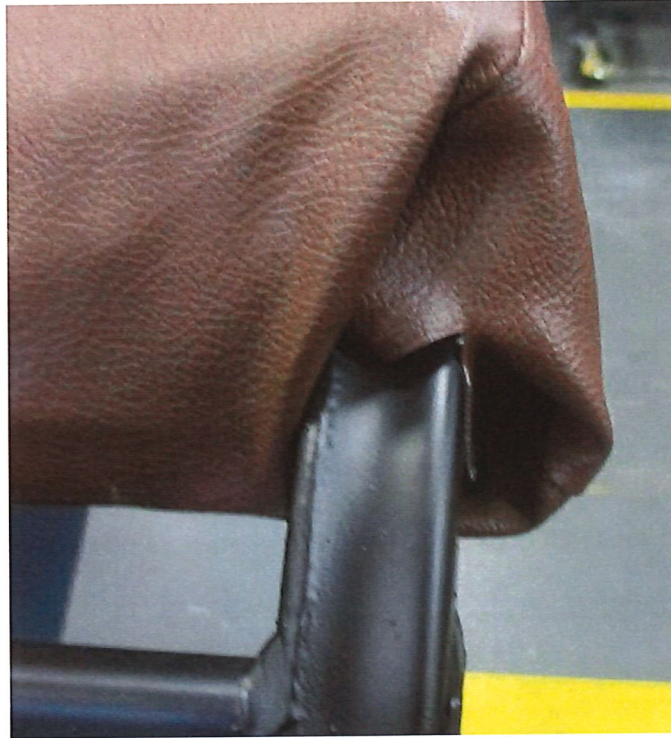

Figure 15: REF completed folding after folding and stapling in place
20. Tuck and fold front and back corners of seat around rear seat leg **Figure 15.**